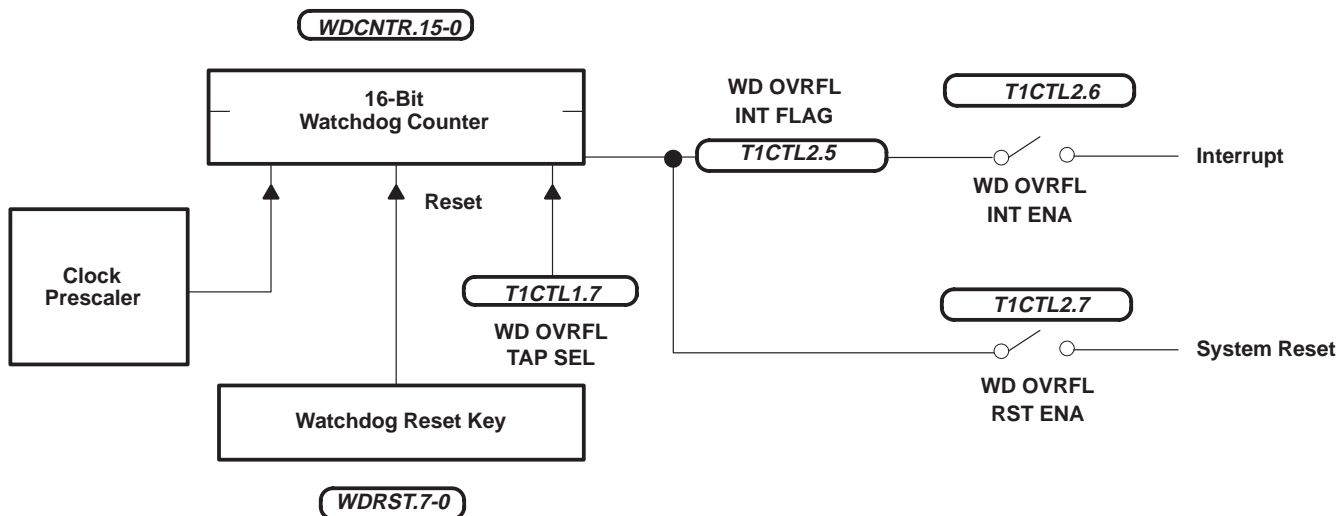

Figure 8. Standard Watchdog
- Standard watchdog configuration (see Figure 8) for 'C722 EPROM and mask-ROM devices: